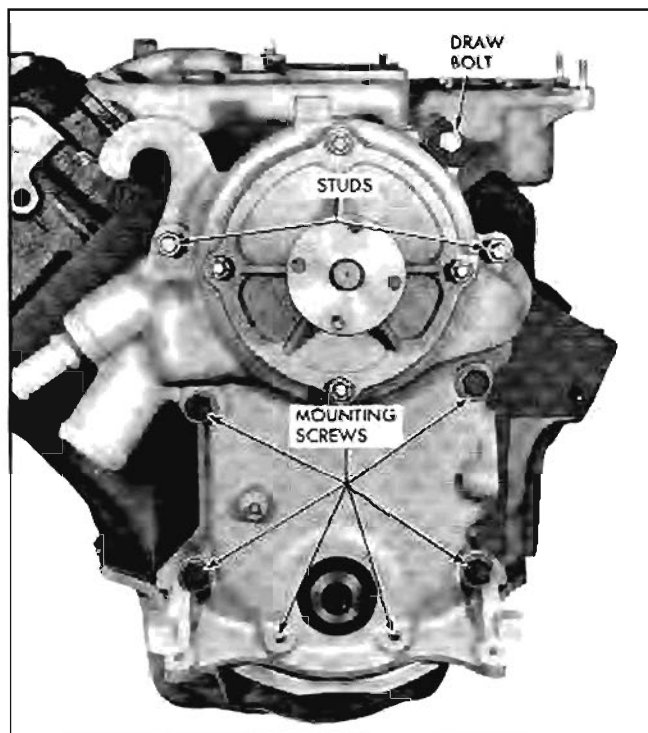

Fig. 6-38 Timing Cover Mounting Bolts
6. Remove timing cover attaching bolts (Fig. 6-38).